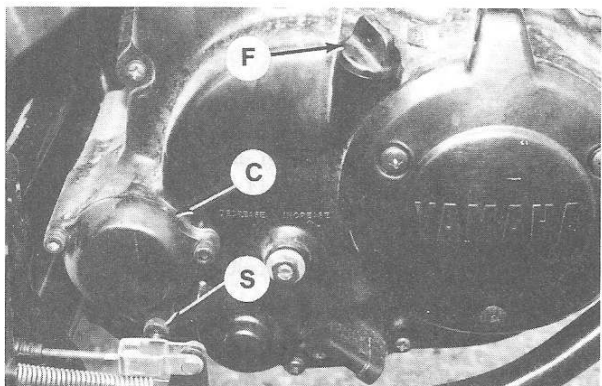
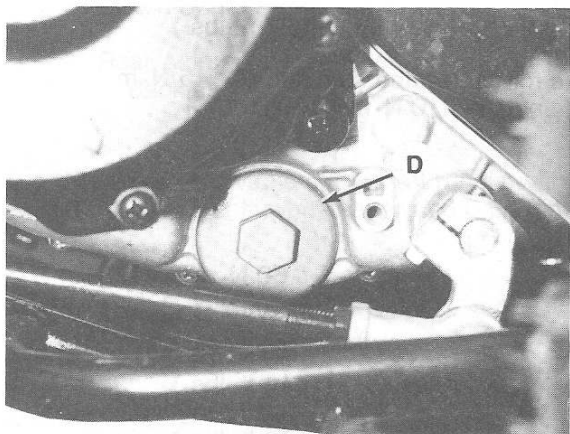

Fig. Y6-1—View showing location of oil fill plug (F). A dipstick is attached to the plug. The oil filter is located behind cover (C).
Fig. Y6-2—Remove plug (D) to drain oil from engine/transmission.
The oil sump is filled through fill plug (F—Fig. Y6-1) opening. The oil level should be maintained between the two marks on the oil plug dipstick. When checking the oil level, rest the plug threads against the top threads of the hole; do not screw the plug into the cover.
Oil is drained by removing the oil drain plug (D—Fig. Y6-2) located on the left side. Note that the spring and oil strainer will be released when the drain plug is unscrewed. The oil filter element is located behind cover (C—Fig. Y6-1). Unscrewing lower cover screw (S) will allow oil to drain from the filter compartment. Clean the oil filter element in a suitable solvent; renew the filter element if it is damaged or blocked.